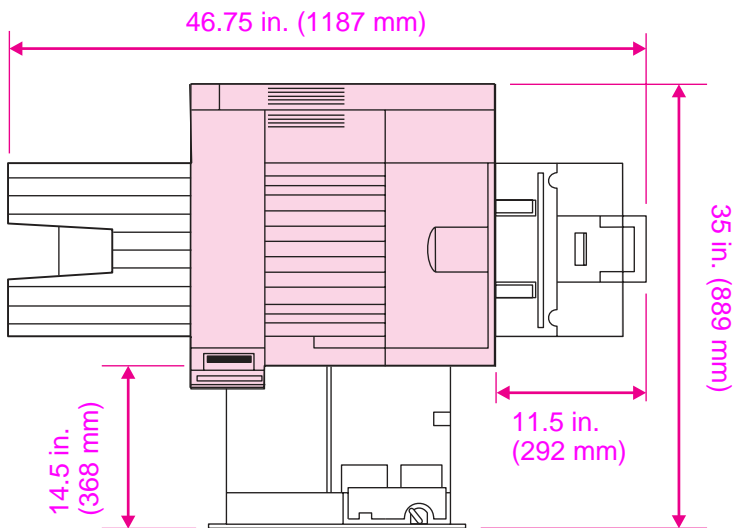

Figure 2-1 **Printer Space Requirements (Top view)**
- Install the printer with enough space around the printer for proper access and ventilation (see figure 2-1 on page 47).